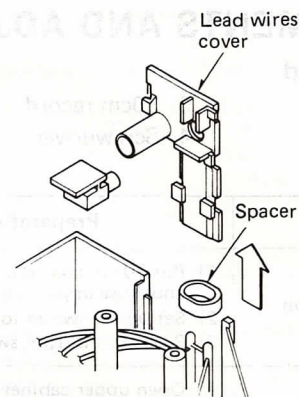

Fig. 15
3. Remove the lead wires cover. (Fig. 15)